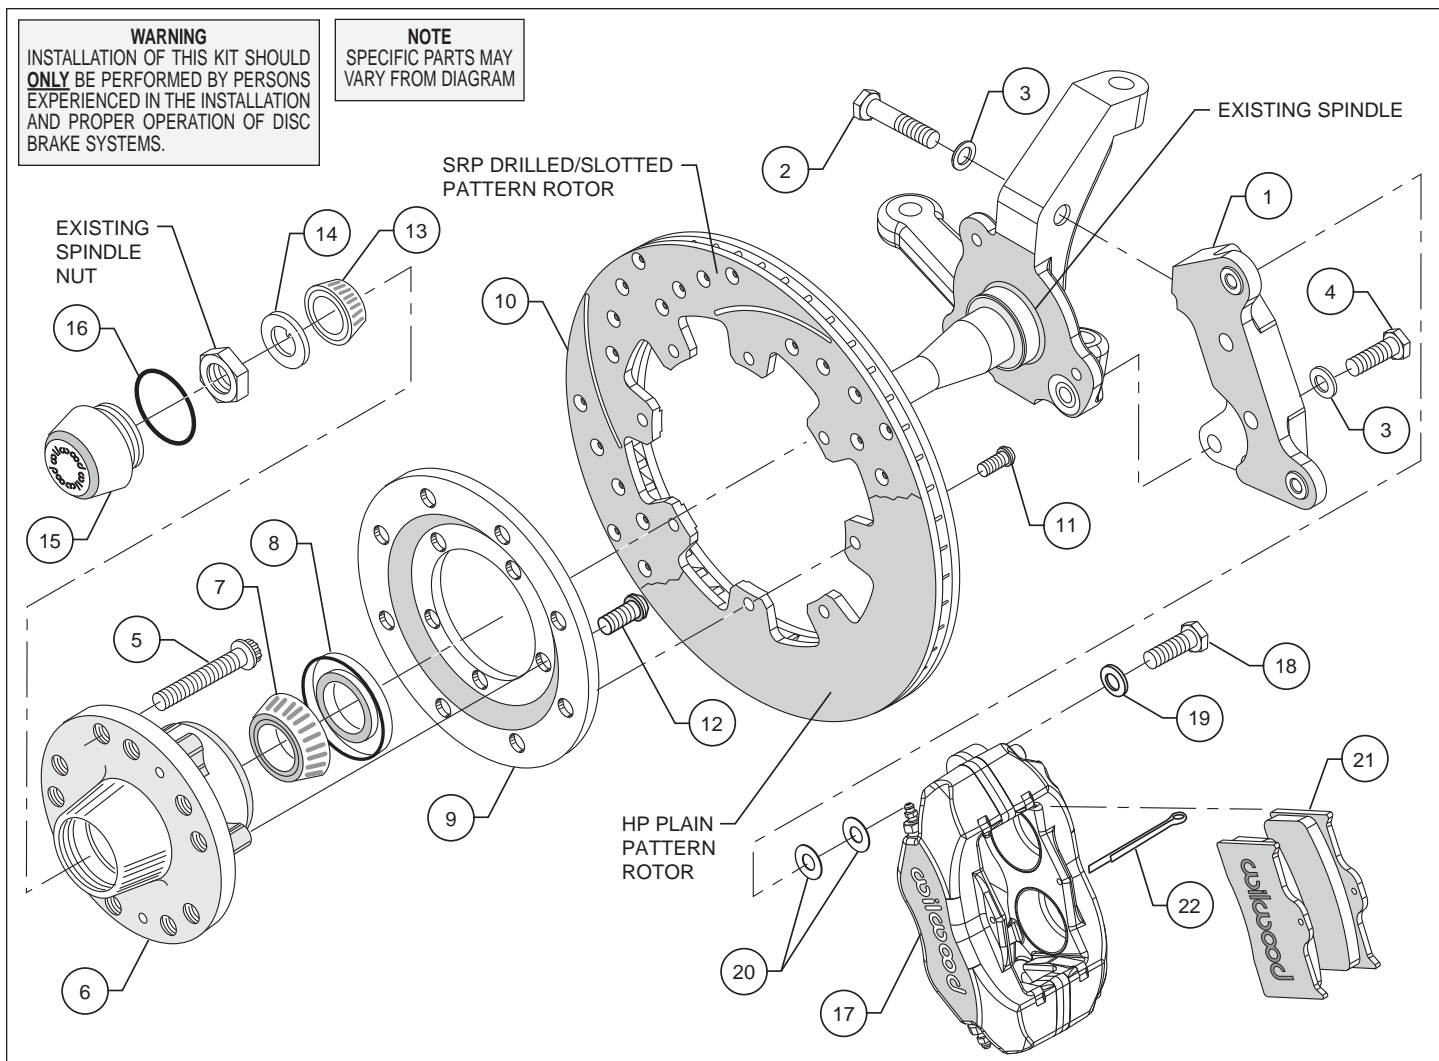
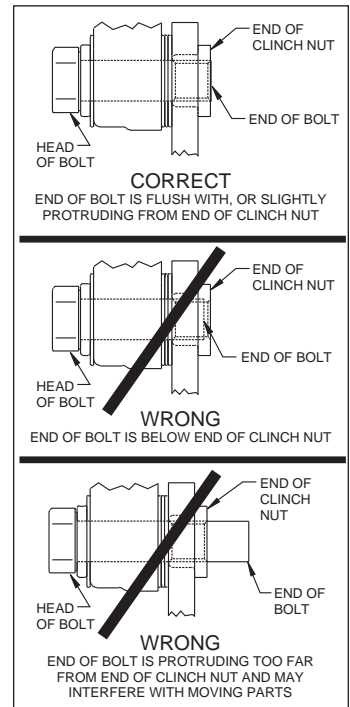

Figure 1. Typical Installation Configuration
Figure 3. Clinch Nut Engagement Diagram
Assembly Instructions (numbers in parenthesis refer to the part lists, and Figure 1):
CAUTION: All mounting bolts must fully engage insert nuts. Be sure to check that all bolts are either flush or protruding through flanged side of insert nut after shimming, Figure 3.
- Orient the caliper mounting bracket (1) on the inboard side of the spindle as shown in Figure 1. Install bracket using bolts (2 and 4), and washers (3), Figure 1. Ensure that the flanged heads of the clinch nuts in the bracket are facing outboard. Temporarily tighten the mounting bolts. **NOTE:** *The bracket must fit squarely against the mounting points on the spindle.* Inspect for interference from casting irregularities, machining ridges, burrs, etc. Remove bolts one at a time, apply red *Loctite*® 271 to threads, and torque bolts to 55 ft-lb.
- Install wheel studs (5) into the hub (6), Photo 1. Torque to 77 ft-lb. **NOTE:** *There are two lug patterns of five holes each in the hub (5 x 4.50 and 5 x 4.75).* Make sure of the correct hole pattern for the wheel application before installing the studs into the hub.
- Pack the large inner bearing cone (7) with high temperature disc brake bearing grease (available from your local auto parts store) and install into the backside of the hub (6), Photo 2.
- Install the grease seal (8) by pressing into the backside of the hub (6), flush with the end of the hub, Photo 2.
- Orient the rotor (10) and the rotor adapter (9) as shown in Figure 1 and Photo 3. Attach the rotor to the adapter using bolts (11). Using an alternating sequence, apply red *Loctite*® 271 to the threads, and torque to 25 ft-lb.
- Mount the adapter/rotor assembly (9/10) to the hub (6) using bolts (12), as shown in Figure 1 and Photo 4. Using an alternating sequence, apply red *Loctite*® 271 to the threads, and torque to 55 ft-lb.
- NOTE:** Please reference the caution statement at the beginning of the assembly instructions. Mount the caliper (17) onto the caliper mounting bracket (1) using bolts (18) and washers (19), as shown in Figure 1. Initially place two .035" thick shims (20) on each bolt between the caliper and the bracket, Photo 7. Temporarily tighten the mounting bolts and view the rotor (10) through the top opening of the caliper. The rotor should be centered in the caliper, Photo 8. If not, adjust by adding or subtracting shims between the bracket and the caliper. Always use the same amount of shims on each of the two mounting bolts. **NOTE:** The end of each bolt must be flush with or slightly protruding from the head of the clinch nut, as shown in Figure 3. If necessary place spare shims between washer (19) and caliper mounting ear to achieve the proper clinch nut engagement. Once the caliper alignment and clinch nut engagement are correct, remove the bolts one at a time, apply red *Loctite*® 271 to bolt threads, and torque to 40 ft-lb.